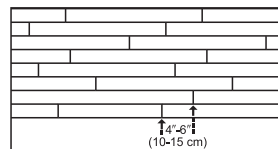

Figure 4
- Be attentive to staggering the ends of boards at least 4"-6" (10-15 cm), when possible, in adjacent rows (Figure 4). This staggering pattern will help ensure a more favorable overall appearance of the floor.
- Check for a tight fit between all edges and ends of each plank. End-joints of adjacent rows should be staggered 4"-6" (10-15 cm) when possible, to ensure a more favorable overall appearance (Figure 4).